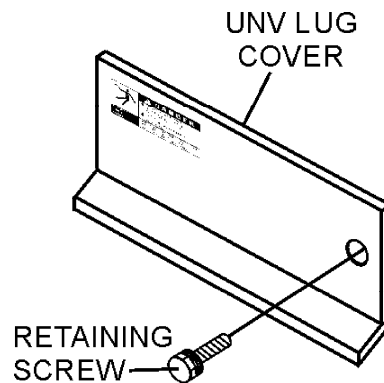

**Figure 14. 120 VAC Accessory Receptacle/Cable**
This generator is equipped with an 120 VAC, 15 amp duplex output receptacle located inside the engine compartment just below the control panel (Figure 14).
Remember that this receptacle will **ONLY** function when commercial power has been supplied to it (Figure 14). To apply commercial power to this accessory receptacle a 60 ft. power cord has been provided.
2. Apply commercial power to the generator via the supplied 60 ft. cable. See Figure 14.